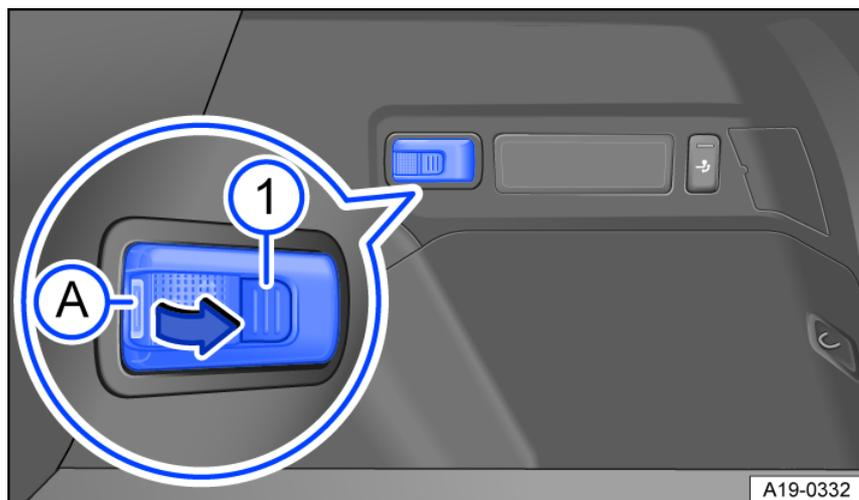

Fig. 170 In the luggage compartment (right-side): Removable luggage compartment light.
Depending on the vehicle equipment, there is a removable light in a bracket in the luggage compartment *fig. 170*.
1. Take hold of the removable luggage compartment light in the *fig. 170* ① area.
1. Press the *fig. 170* ① button to switch on the light. The light will switch on at full brightness.
2. Depending on the design, press the *fig. 170* ① button again to set the brightness to 50%.
3. Press the *fig. 170* ① button again to switch off the removable luggage compartment light.
1. Switch off the removable luggage compartment light and push it into the bracket in the opposite direction to the arrow *fig. 170*.
2. Remove the battery cover with a thin object below the *fig. 170* ① area.